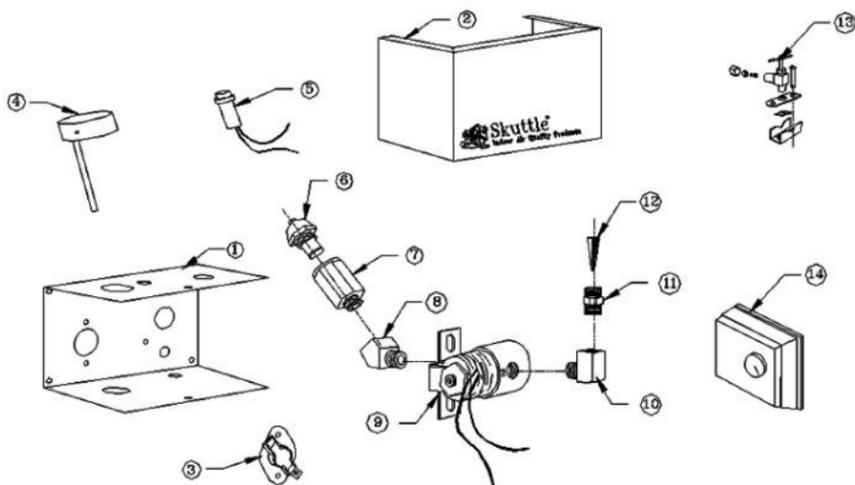

Figure 6
7.0 Parts may be ordered through your local heating or plumbing dealer. (See Figure 6, below).